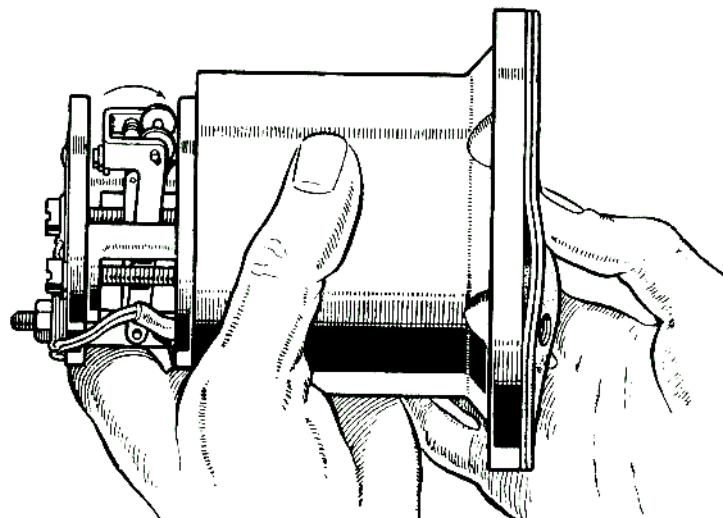

Fig. M-17—Armature adjustment
13. Fit the impact washer (N) in the recess of the armature.
16. Hold the magnet assembly in the left hand in an approximately horizontal position. Push the armature in firmly but steadily, with the thumb of the right hand (Fig. M-17).